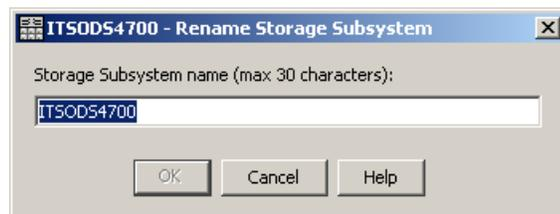

Figure 5-38 Renaming the DS4000 storage server
2. Enter a new name for the subsystem in the Rename Storage Subsystem dialog box (Figure 5-38).